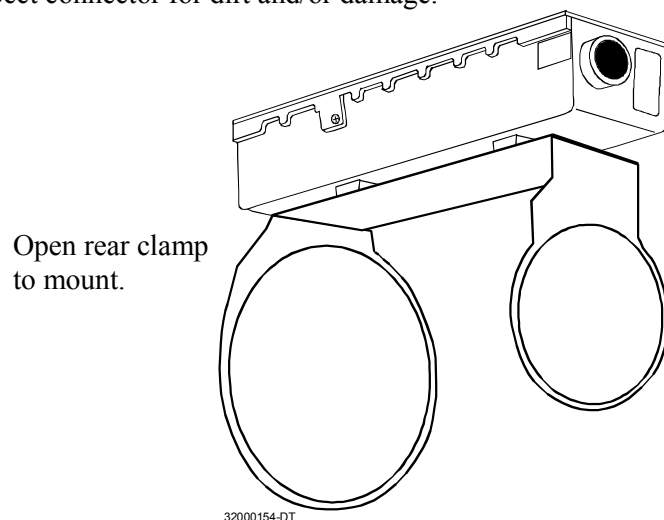

Figure 2-24. M2/M3 ULT and Adapter Assembly.
- a. Remove the ULT with the attached ULT adapter from the transit case, and inspect it for any damage that would prevent installation or operation. (See Figure 2-24.)